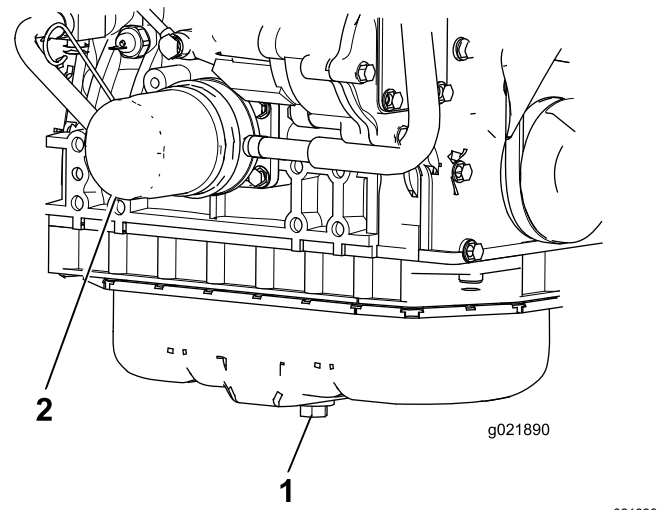

Figure 62
1. Remove the engine oil drain plug (Figure 62) and let the oil flow into a drain pan. When all the oil is drained, install the drain plug.
2. Remove the oil filter (Figure 62). Apply a light coat of clean oil to the new filter seal before screwing it on. **Do not overtighten.**